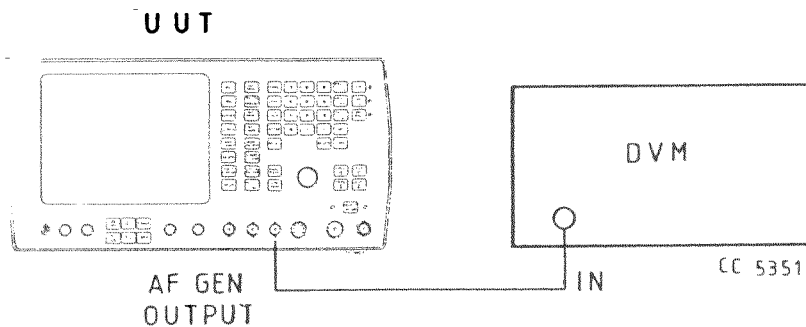

Fig. 42 Test equipment connections for adjusting R48,R11,R12 on AB6
- (1) Connect the equipment as shown in fig. 42.
- (2) Set the u.u.t. to receiver test.
- (3) Set the 2955 a.f. generator frequency to 1 kHz level V.
- (4) Set the d.v.m. to measure a.c.